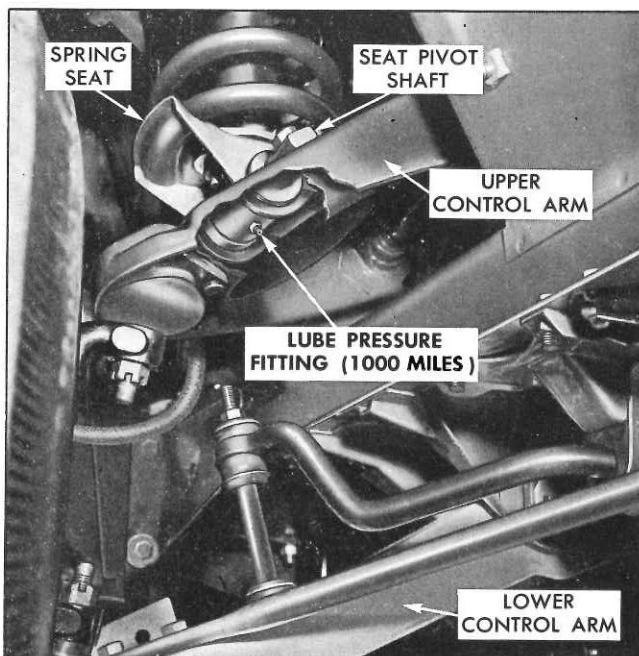

Fig. 4—Chevy II Front Spring Seat Pivot
- **CHEVY II FRONT SPRING SEAT**—The pivoting lower seat utilized for each front suspension coil spring is provided with a pressure type fitting to accept chassis lubricant for the seat pivot shaft. In many instances these fittings have been overlooked at regular chassis lubrication due to servicemen being unfamiliar with this type suspension. At each spring lower seat, the grease fitting is located on the underside of the pivot shaft bearing housing (Fig. 4) and can be reached easily through the large opening in the upper control arm. In cases where the pivot